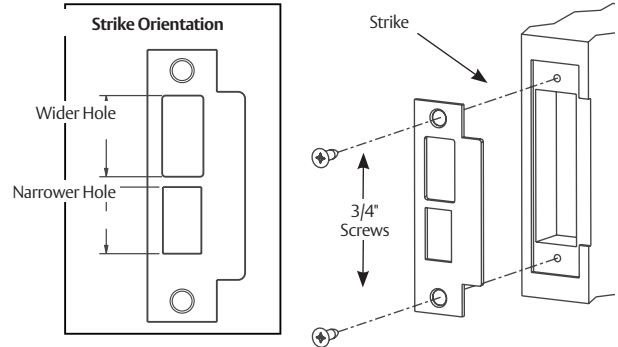

Figure 11
1. Install strike using two (2) 3/4" combination screws. If strike box is needed, insert between strike and door frame. (Figure 11)